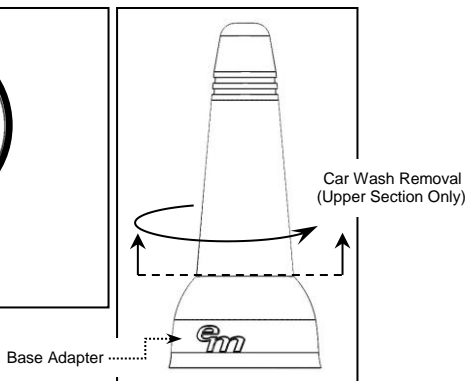

Fig. 4
- C. **CAR WASH REMOVAL (Fig. 4):** Using one hand, hold the antenna at the base adapter with a firm grip. Using the opposite hand, detach the upper radiator section **only** by unthreading with a Counter Clockwise (CCW) rotation from the base adapter. **Note:** Leave the NMO Base Adapter attached to the NMO mount to protect the mount from water and debris.